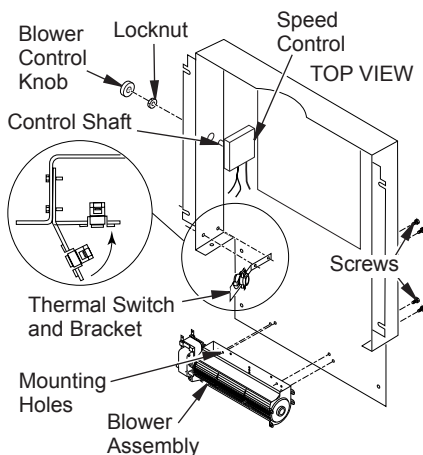

Figure 17 - Blower Assembly, Speed Control, and Thermal Switch Locations
3. Align the holes in the top mounting tabs of blower with the holes in wall of rear cover. Using the 4 screws provided, mount blower and tighten screws securely (see Figure 17).
4. **Thermostat Blower Only:** Attach thermal switch and bracket to inside rear cover wall with two hex head screws provided as shown in Figure 17. After securing bracket to rear cover, carefully bend along existing bend line on bracket to almost a 90° angle (see Figure 17). This will allow thermal switch to be positioned against stove rear wall and sense temperature when in operating mode.
5. Place speed control on left inside of rear cover and push the plastic control shaft through opening (see Figure 17, page 9).